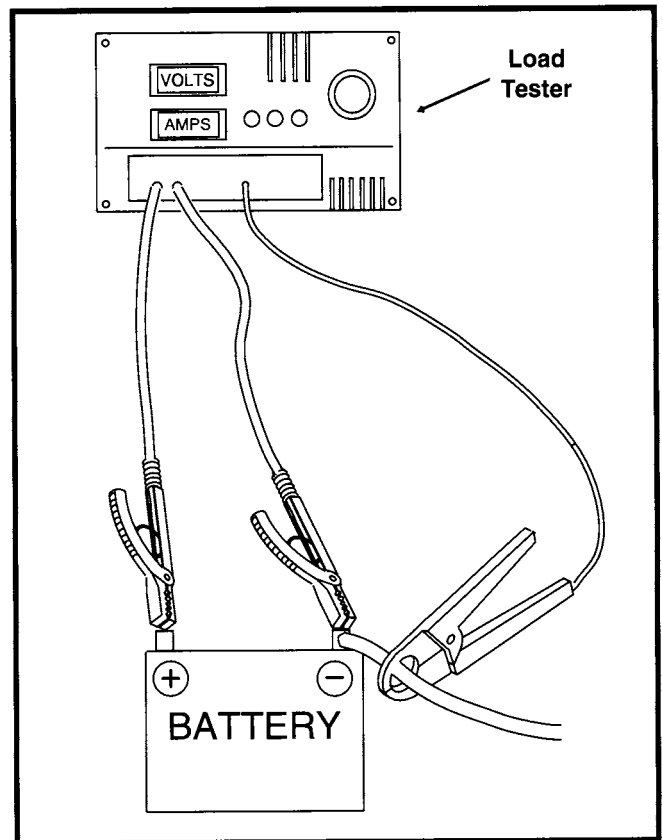

Figure 143. Check Current Draw (Ignition Switch On)
See Figure 143. If the battery runs down during use, the current draw of the motorcycle components and accessories may exceed the output of the charging system. To check for this condition, place load tester induction pickup or current probe pickup over battery negative cable as shown.
1. Connect load tester negative and positive leads to battery terminals and place load tester induction pickup over positive regulator cable as shown in Figure 143.